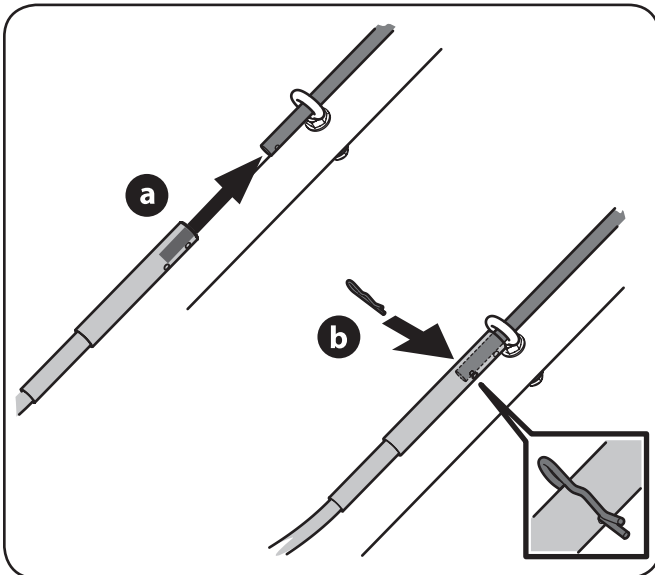

Figure 3-19
- Secure the flex shaft to the upper chute crank with the hair pin clip. See Figure 3-19.